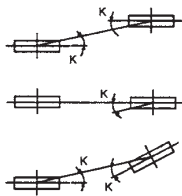

figure 1 Parallel degree of pulley
1. Set the parallel angle of the fan and the motor pulley as shown in table 1 and figure 1.